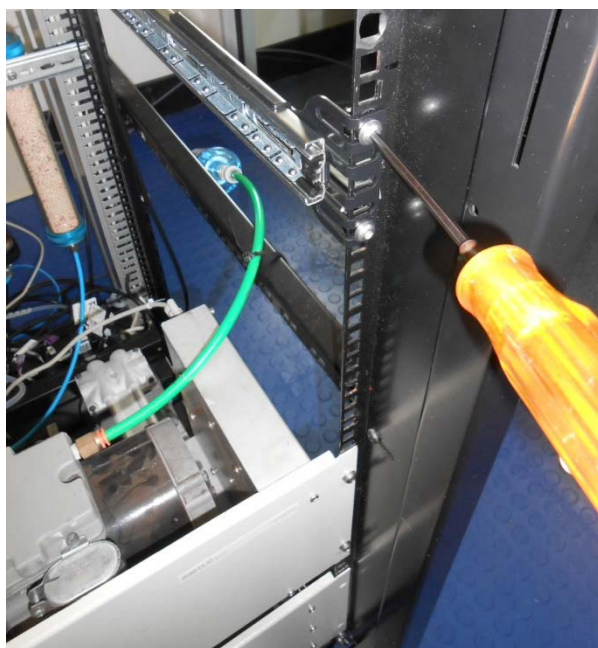

Figure 71 – Attach Slides to Front of Rack
7. Install the two assembled outer slide rails onto the left and right side of the rack securely with M6 bolts; washer and locknuts/cage nuts (refer to Figure 71).